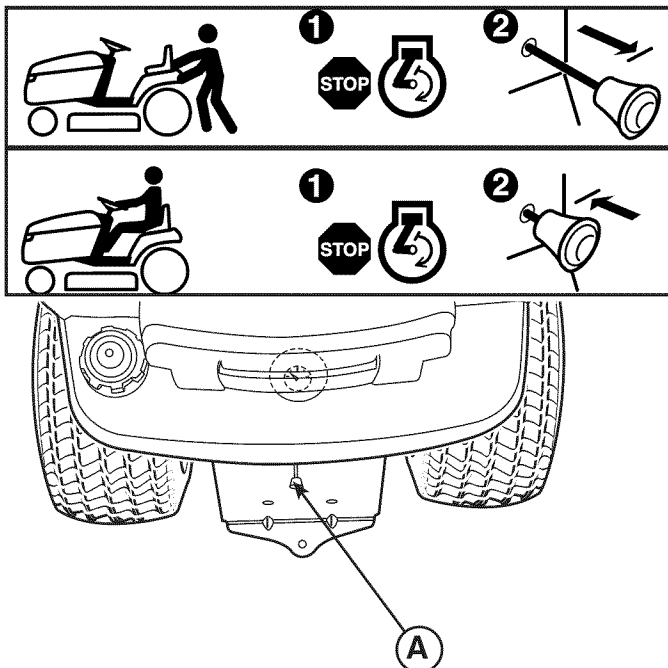

FIGURE 6
2. Pull out the lever approximately 2-3/8" (6 cm) to release the transmission (A, Figure 6).